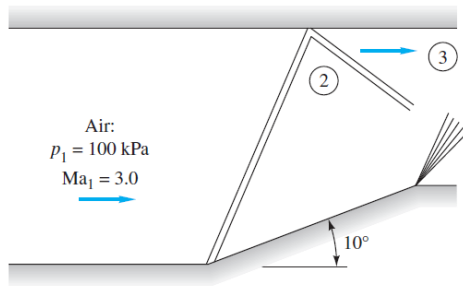

Fig. 9.16
9.16 A bend in the bottom of a supersonic duct flow induces a shock wave that reflects from the upper wall, as in Fig. 9.16. Compute the Mach number and pressure in region 3.